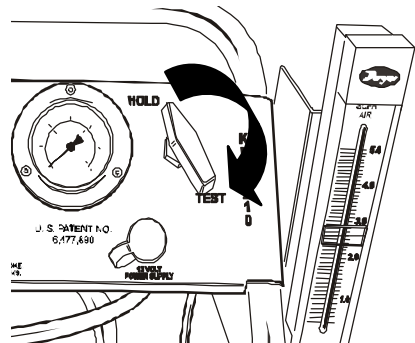

Fig. 6
3. Turn Control Valve to **TEST** position (fig. 6).